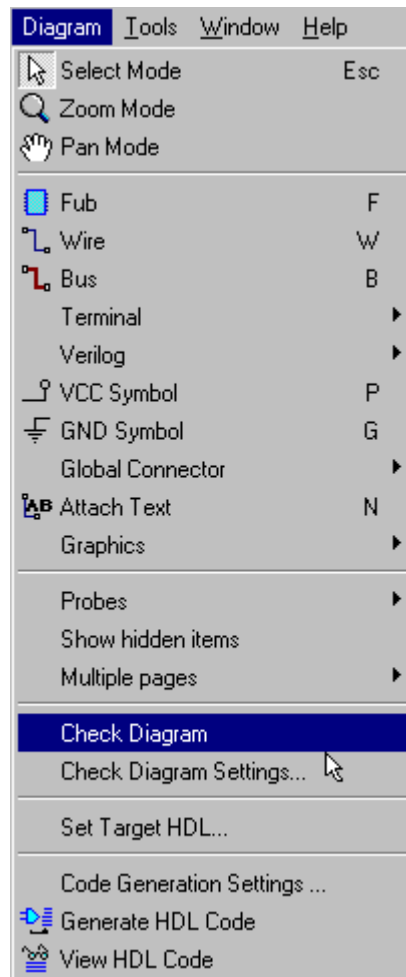
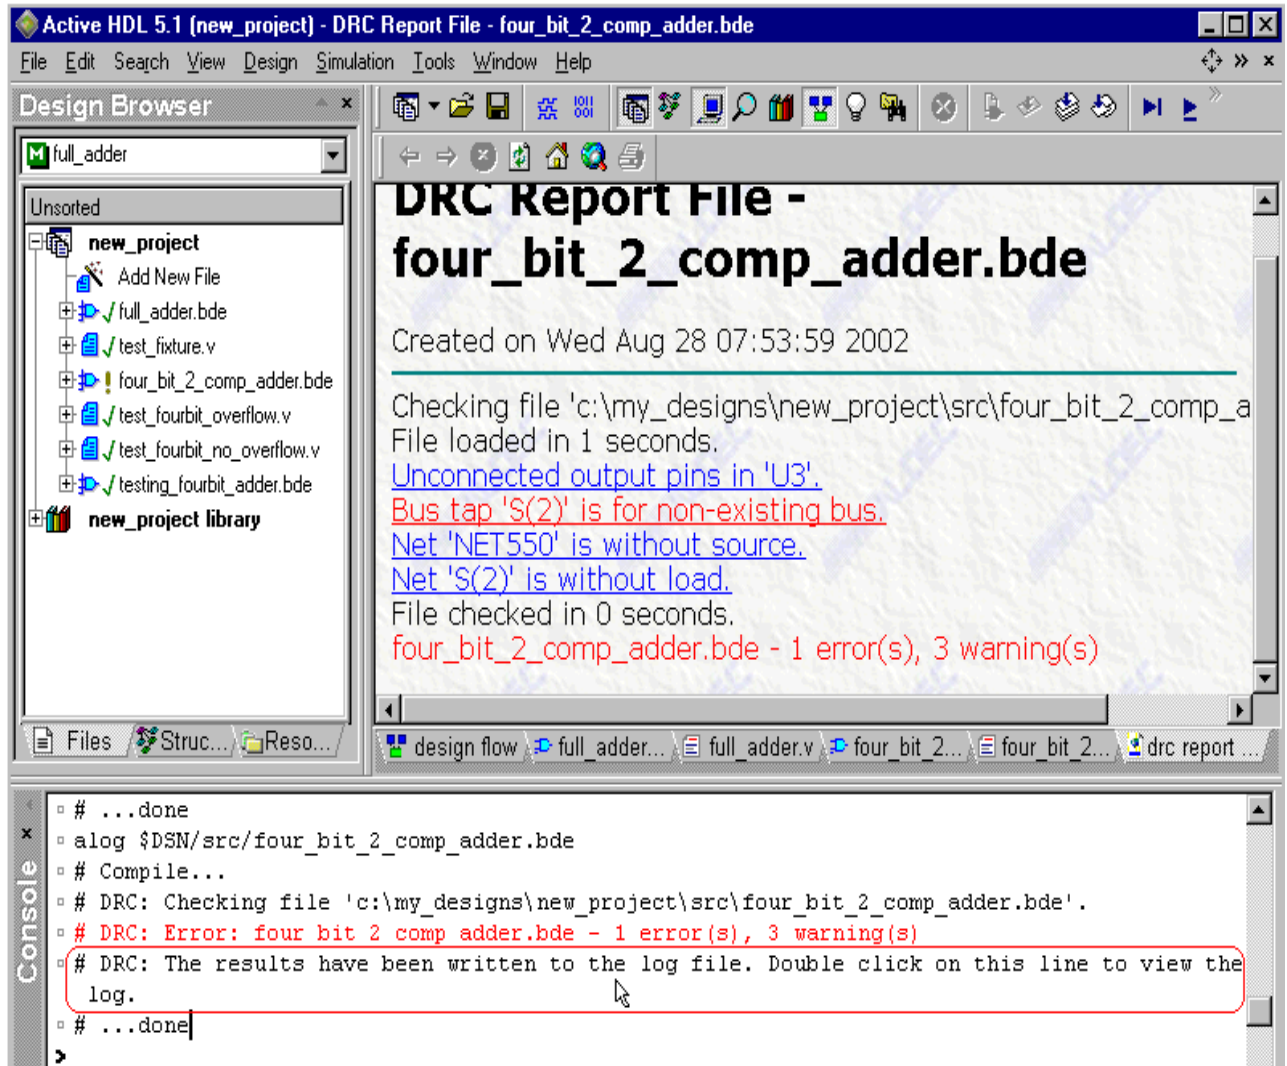

Figure 24
Figure 26
2. Active-HDL provides a “Check Diagram” tool. This tool will verify that the components are connected properly by printing the results into the Design Rule Check report (DRC). To open this report, go to the Console and double-click the line that states, “Double click on this line to view the log” (see Figure 26 in the DRC section). The DRC report is explained later in this tutorial. Always use the “Check Diagram” tool prior to compiling by clicking the Diagram/Check Diagram option in the menu bar (see Figure 24).
When you run the check diagram tool, a DRC report file is created. Open this file by going to the DRC line in the Console and double-click the appropriate line (see Figure 26). This file will list any errors or warnings your design might contain, such as unconnected ports, mislabeled wires and/or terminals, and other connection related errors/warnings. Each error/warning in the report is a hyperlink that will take you to the problematic component in your design. Figure 26 shows an example of a DRC report file for a schematic with an error and some warnings.